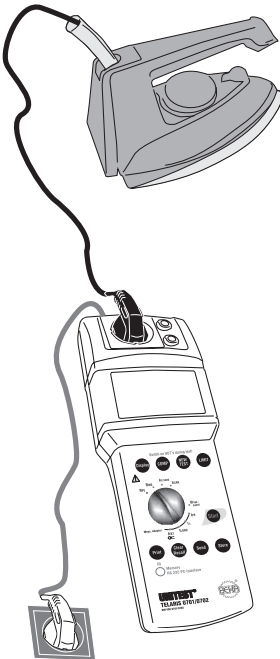

Figure 6.5: Insulation resistance measurement for appliances of protection class I
- ▶ Connect the UNITEST TELARIS 0701/0702 via the mains plug (1) to a functional and correctly wired and grounded mains socket.
- ▶ Turn the 'Measurement function' selection switch (15) to position 'RINS'.
- ▶ Plug the mains plug of the UUT into the test socket (3), please refer to Figure 6.5.
- ▶ Press the key "Start" (9). The unit symbol which is blinking on the display is an indication for the active measurement procedure.
- ▶ Read the measurement value from the LC display (6). If the limit value display is active, the symbol 'LIMIT' (21) indicates that the measurement value has fallen below the limit value.